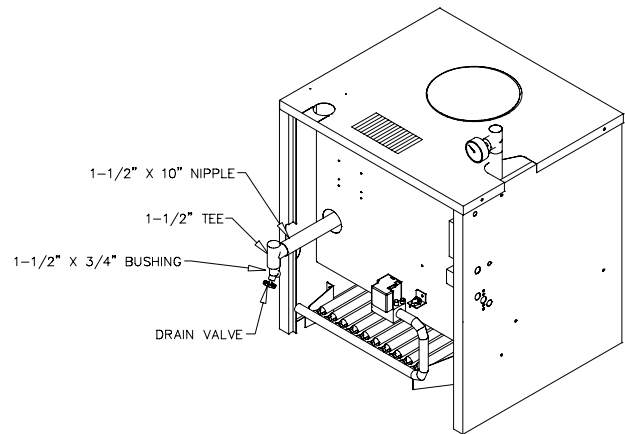

Figure 3.3: Drain Valve Installation
3. **Install drain valve.** Remove jacket front panel. Install drain valve with tee in return tapping. Nipple, tee, bushing and drain valve are located in trim carton. See Figure 3.3. Tee may be installed with run in either horizontal or vertical orientation.